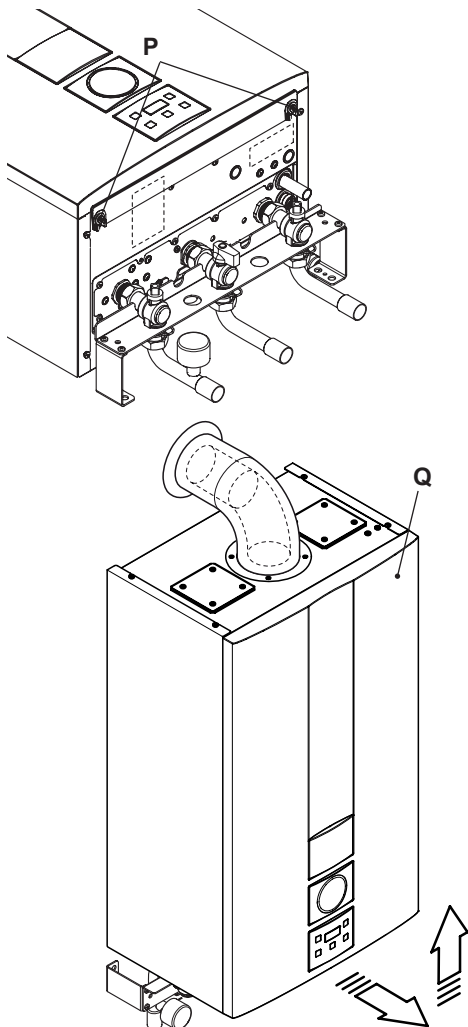

Fig. 6.15
- Unscrew screws "P" and remove the front panel "Q" by pulling it and pushing it towards the top so that it is freed from the top housing Fig. 6.15.